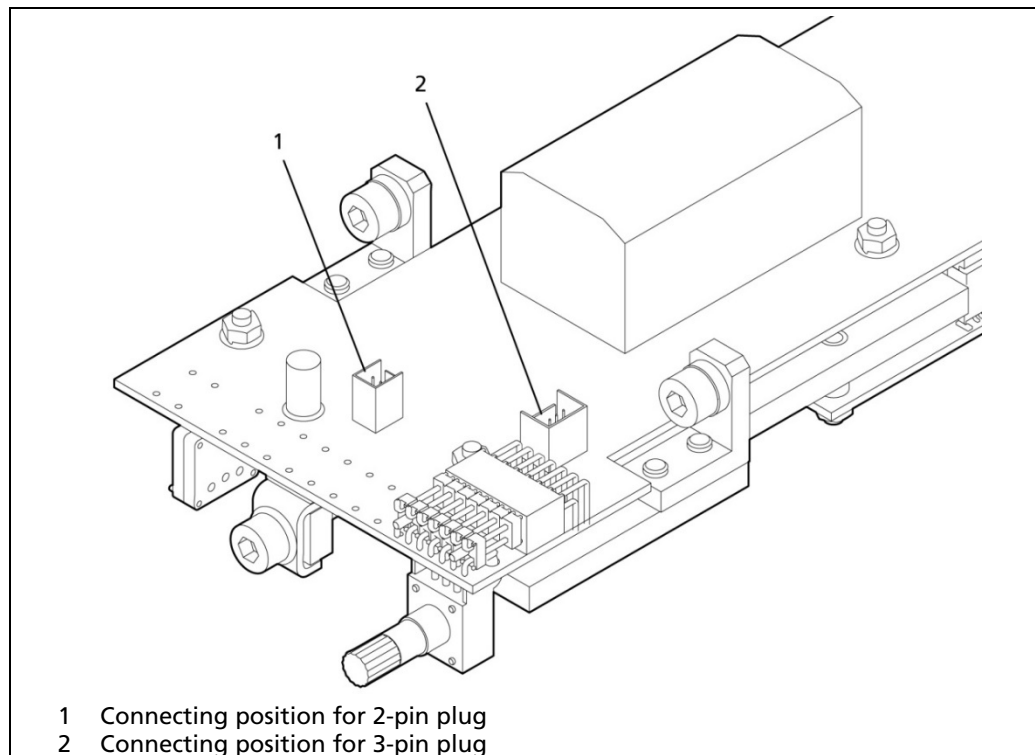

Fig. 39 Connector plug installation on PCB
6. Insert the cables into the opening and plug it to the respective sockets (Fig. 39).